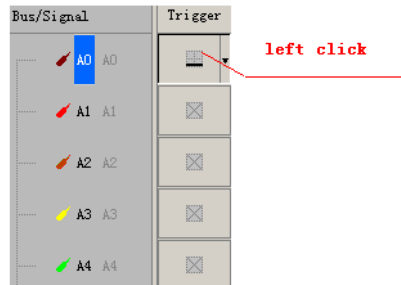

Fig 4-20 – Left Click on Trigger
1. Left click  to set the signal trigger condition as shown in Fig 4-20.